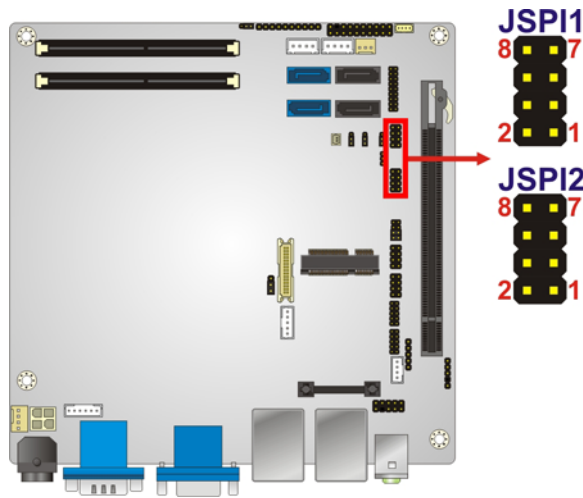

Figure 4-11: Flash Security Override Jumper Location
- Jumper Location:** See Figure 4-11